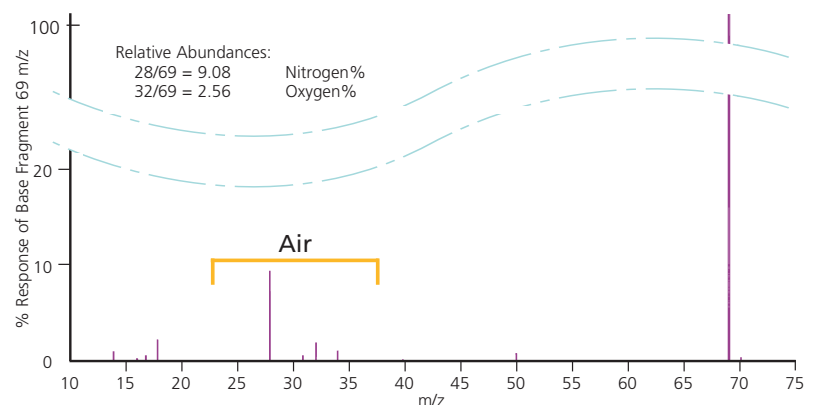

Figure 1. MS trace using a graphite Vespel ferrule after 5 temperature cycles.
- Eliminates leaks (Figures 1 and 2)